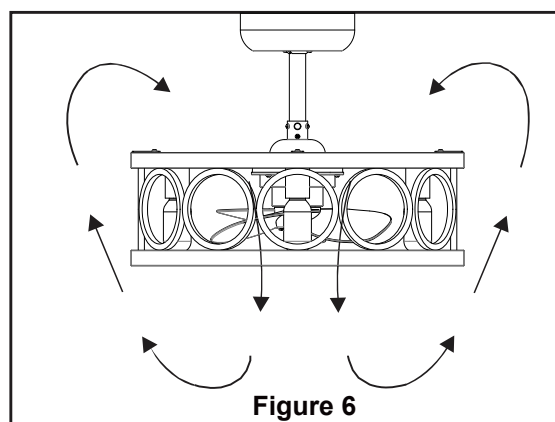

Figure 6
- ☐ Warm weather - (Forward) A downward air flow creates a cooling effect as shown in Figure 6. This allows you to set your air conditioner on a higher setting without affecting your comfort.